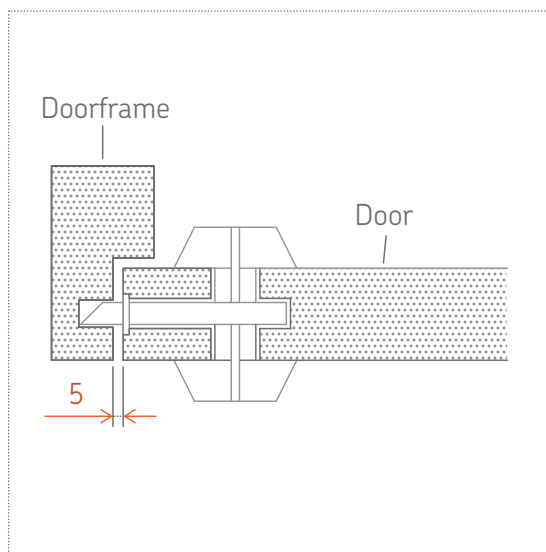

Figure 4: The tolerance between the door and the frame
- The **tolerance between the door and the frame** is defined as the space between the door and frame at the lock (figure 4).